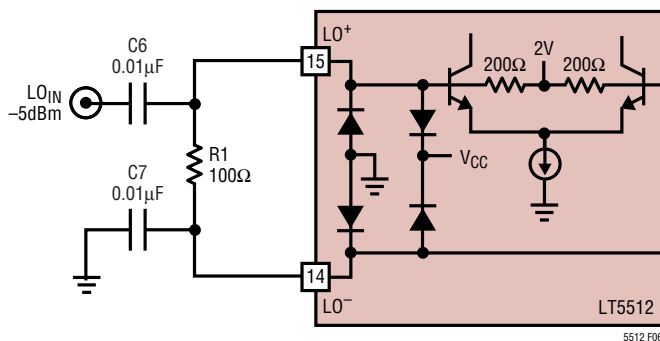

Figure 6. LO Input with Resistive Matching
A simplified schematic of the LO input is shown in Figure 6 with simple resistive matching and DC blocking capacitors. This is the preferred matching for LO frequencies below 1.5GHz. The internal (DC) resistance is 400Ω. The required LO drive at the IC is 150mV_{RMS} (typical) which can come from a 50Ω source, or a higher impedance source such as PECL. The external matching resistor is required only to reduce the amplitude of the LO signal at the IC, although the input stage will tolerate 10dB of overdrive without significant performance degradation. Resistive LO port matching is used on the low-frequency evaluation board (see Figure 1).